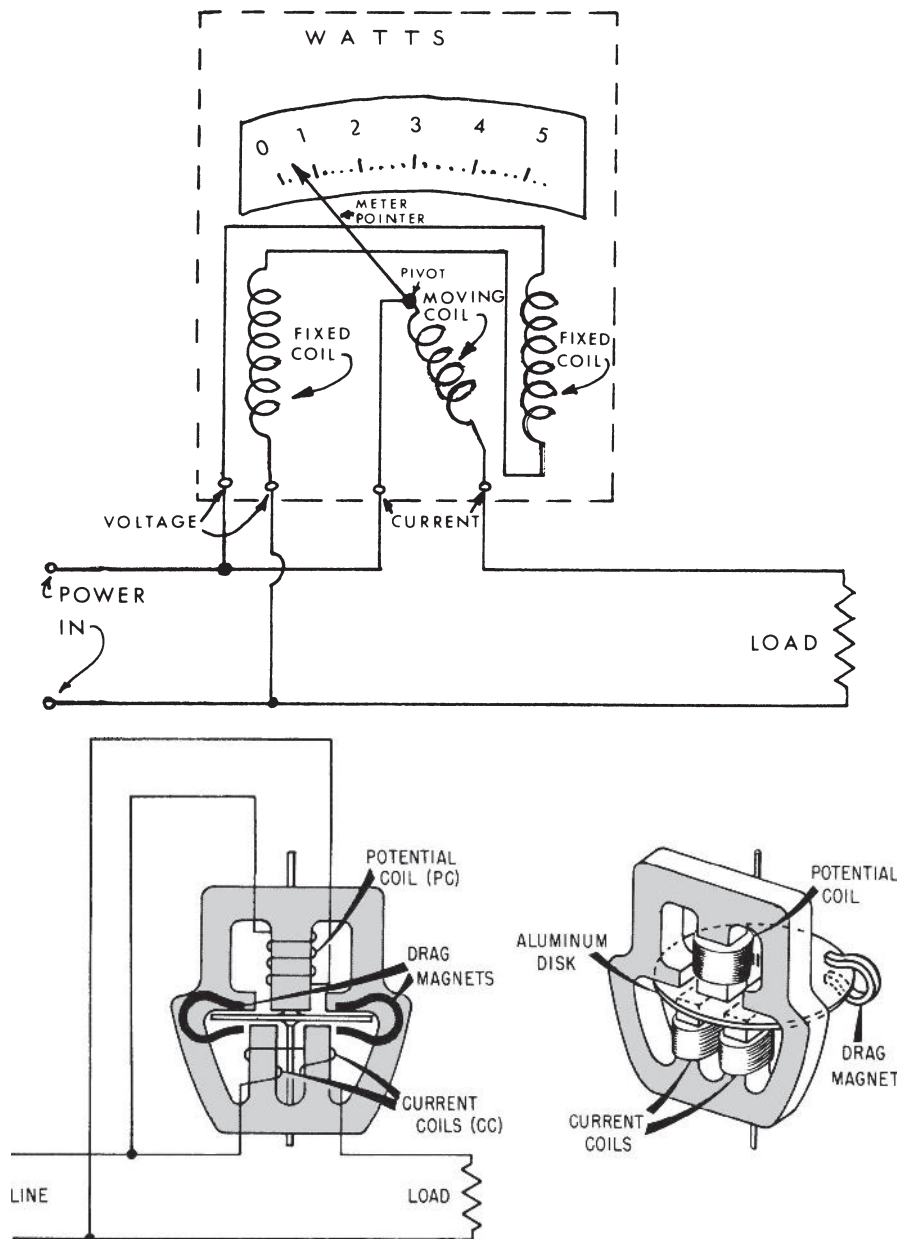

Fig. I-27 (A) Wattmeter hookup; (B) kilowatt-hour meter.
- **Wattmeter.** A wattmeter measures electrical power. Electrical power is figured by multiplying the voltage times the current. A wattmeter has two electromagnetic coils (a coil with many turns of fine wire for voltage and a coil with a few turns of heavy wire for current). The voltage coil is connected across the incoming line, and the current coil is connected in series with one of the incoming wires. The two coils are stationary and in series with a moving coil. The strength of the magnetic fields determines how much the moving coil is deflected. The deflection of the needle is read on a scale calibrated in watts. In this way, the wattmeter measures the power consumed in 1 s (Fig. I-27).